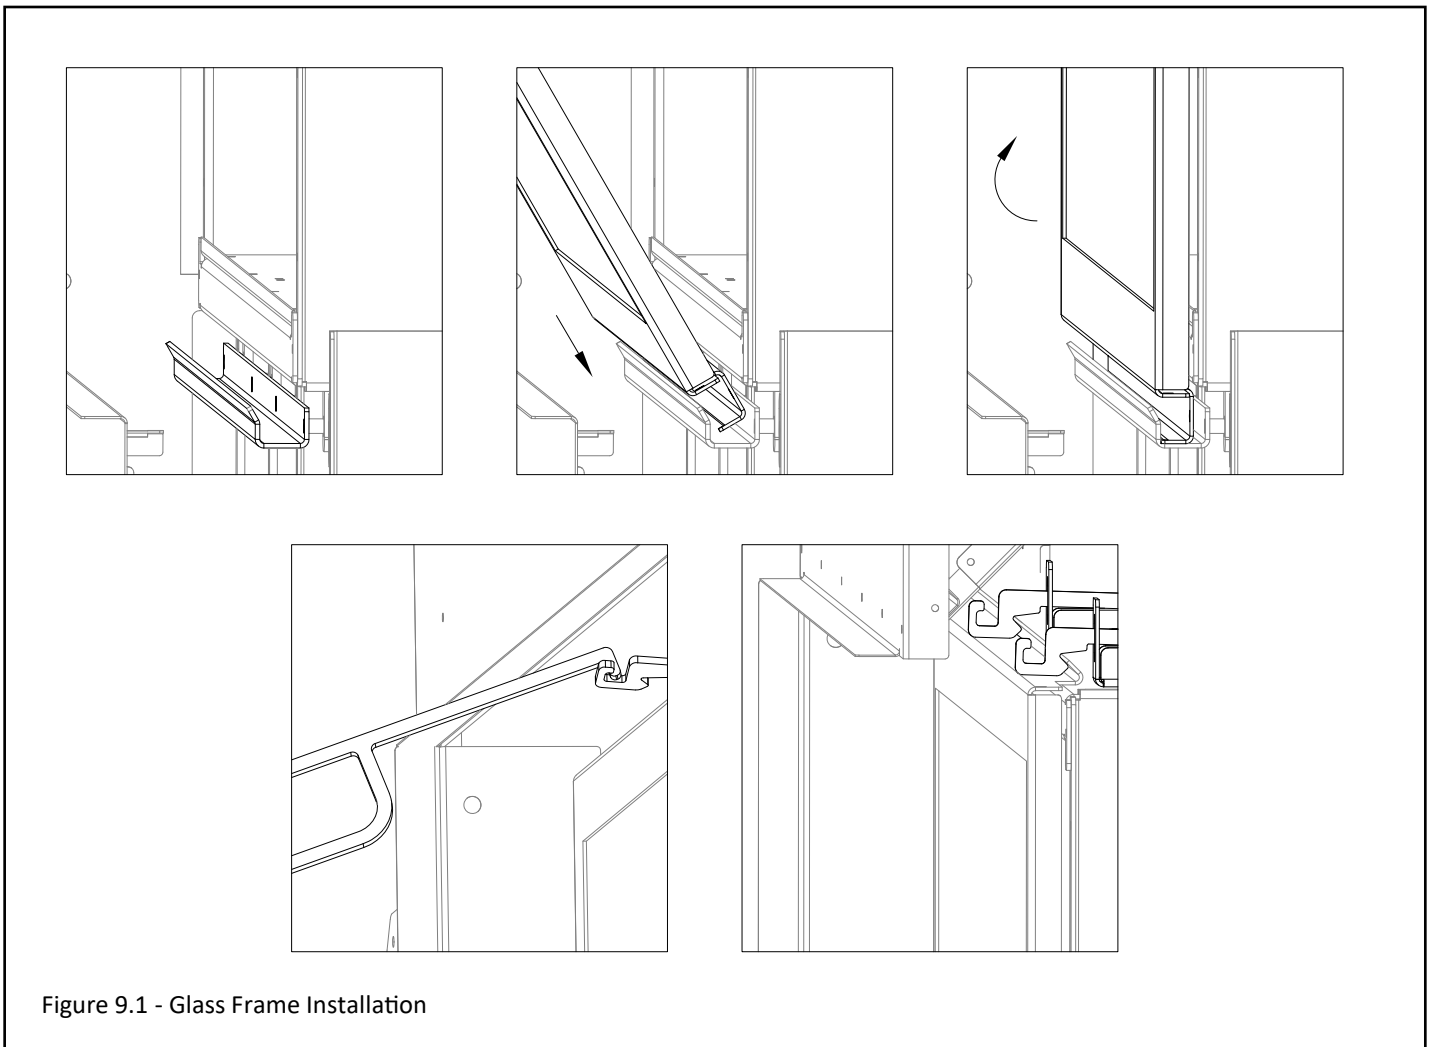

Figure 9.1 - Glass Frame Installation
1. Tilt the top of the glass frame assembly as shown in Figure 9.1. Align the slot on bottom of the glass assembly on top of the rail at the bottom of the firebox while tilting the top of the glass assembly into position.